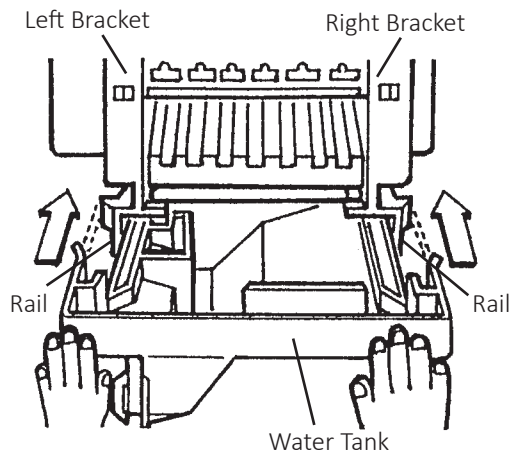

Fig. 37
- 14) Slide in the water tank along the rails at the bottom of the left and right brackets until it locks into place. See Fig. 37.